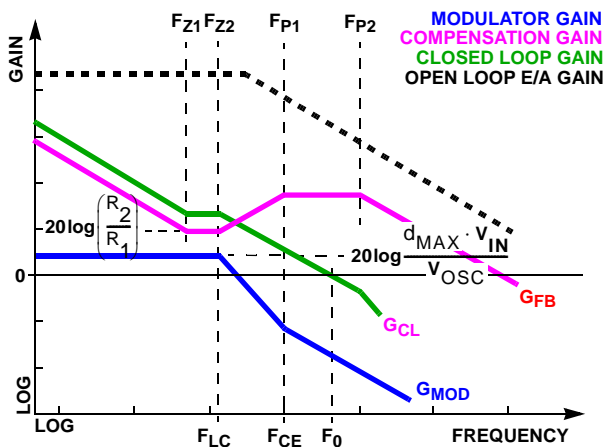

FIGURE 14. ASYMPTOTIC BODE PLOT OF CONVERTER GAIN
Figure 14 shows an asymptotic plot of the DC/DC converter's gain vs frequency. The actual Modulator Gain has a high gain peak dependent on the quality factor (Q) of the output filter, which is not shown. Using the above guidelines should yield a compensation gain similar to the curve plotted. The open loop error amplifier gain bounds the compensation gain. Check the compensation gain at F_{P2} against the capabilities of the error amplifier. The closed loop gain, G_{CL} , is constructed on the log-log graph of Figure 14 by adding the modulator gain, G_{MOD} (in dB), to the feedback compensation gain, G_{FB} (in dB). This is equivalent to multiplying the modulator transfer function and the compensation transfer function and then plotting the resulting gain.